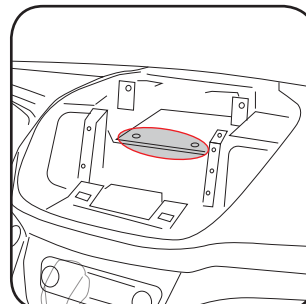

Fig. 1.7
7. If you are installing a standard sized double din radio, trim the plastic behind the screen to make the radio fit. (Fig. 1.7)